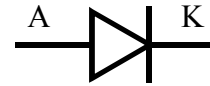

Figure P4-1 Diode circuit symbol
The LED leads are indicated by both the length of the leads and the flat spot on the rim of the diode. The short lead is next to the flat spot, and is the cathode (K), the lead at the head of the arrow, which is also the end of the diode symbol with the bar (Figure P4-1). The long lead, the one further from the flat spot, is the anode (A), the lead at the tail of the arrow of the diode symbol. The diode will allow current to flow from the anode to the cathode.